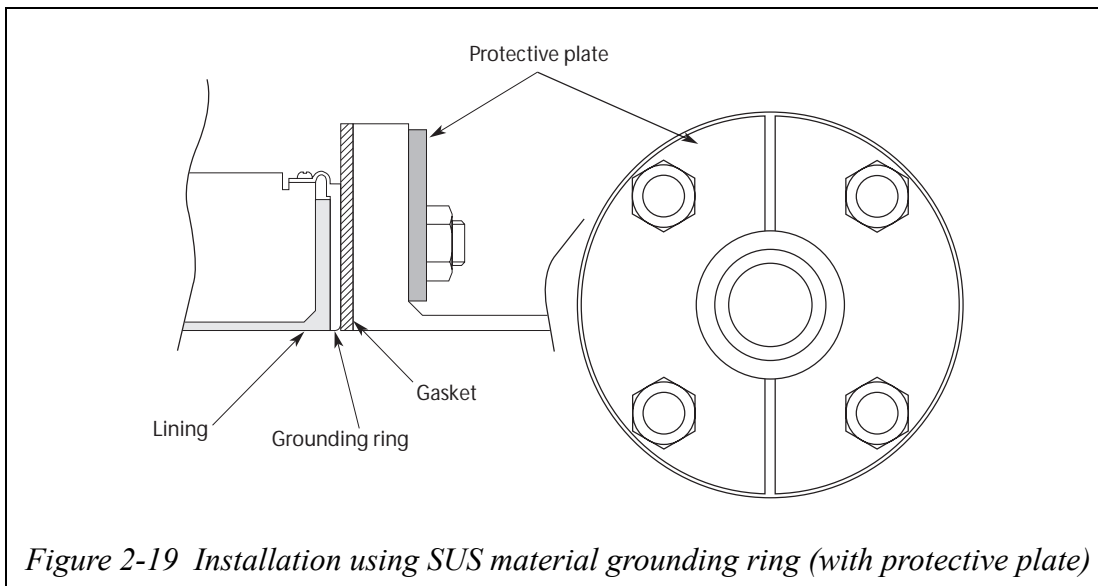

Figure 2-19 Installation using SUS material grounding ring (with protective plate)
- Protective plate: Use the protective plate if bolt tightening at the specified torque threatens to warp or damage the PVC pipe. See Figure 2-19 for an illustration of the protective plate.
Install the protective plate between the outer side of the PVC flange and the detector, as shown in Figure 2-19. The protective plate protects the PVC pipe from deformation or damage when secured at the specified torque. The torque level is unrelated to the pipe or grounding ring material. See Table 2-1 on page 2-12 for the appropriate torque.
- Protective plate: A protective plate is required if tightening the bolts to the specified torque may deform or damage the PVC pipe. Use stainless steel or similar hard metal 1 mm thick or more. For the shape, see Figure 2-19.